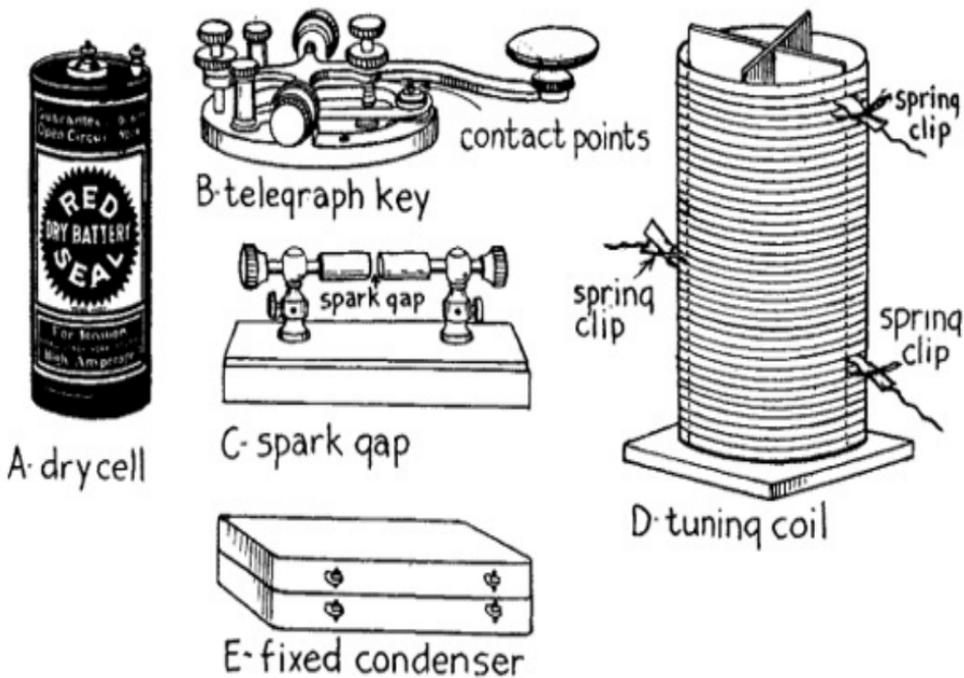

FIG. 19.—Other parts for Transmitting Set No. 1
a storage battery to energize your coil. For all coils that give less than a 1-inch spark you should use 5 dry cells; for 1- and 2-inch spark coils use 6 or 8 dry cells, and for 3 to 4-inch spark coils use 8 to 10 dry cells. The way the dry cells are connected together to form a battery will be shown presently. A dry cell is shown at *A* in *Fig. 19*.
*The High Tension Condenser.*--Since, if you are an amateur, you can only send out waves that are 200 meters in length, you can only use a condenser that has a capacitance of .007 microfarad. Footnote: See [Appendix for definition.] A sectional high tension condenser like the one described in connection with *Set No. 1* can be used with this set but it must have a capacitance of not more than .007 microfarad. A condenser of this value for a 1/4-kilowatt transformer costs \$7.00; for a 1/2-kilowatt transformer \$14.00, and for a 1-kilowatt transformer \$21.00. See *E, Fig. 19*.